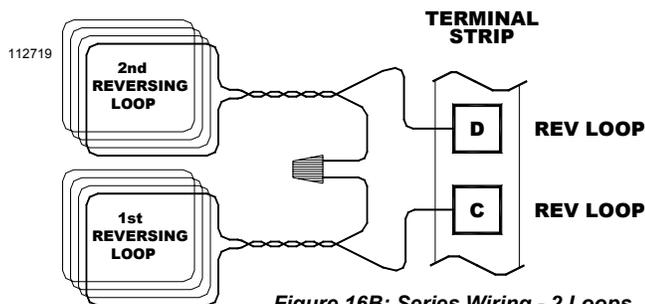

Figure 16B: Series Wiring - 2 Loops
the concrete or asphalt surface in accordance with the manufacturer's instructions and the information outlined earlier in this manual (see Page 7). Connect the wires from the actual Reversing loop to Terminals C and D, see Figure 16A. If employing two (2) Reversing Loops as shown in the diagram on Page 7, and are connecting the loops to the same Loop Detector, wire in series as shown in Figure 16B.